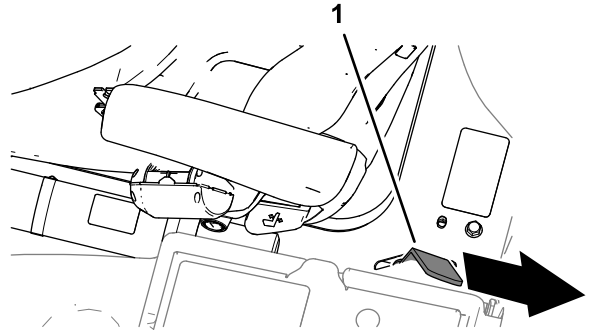

Figure 14
3. Fully lower the platform and move the platform-latch handle toward the rear of the machine until the latch hooks fully engage the locking bar (Figure 14).